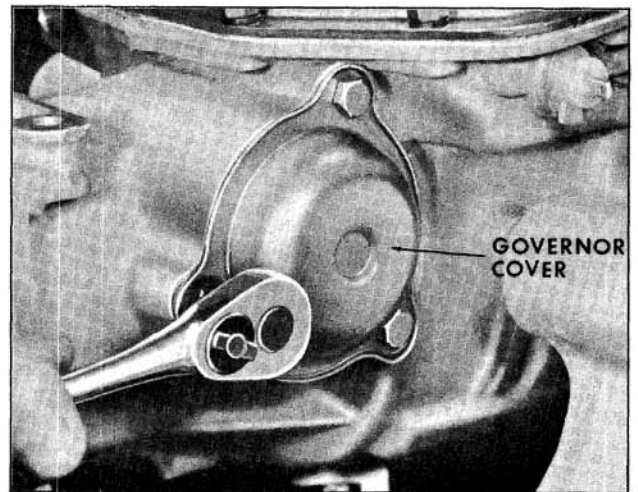

Fig. 6-370 Removing Governor Cover
1. Remove three attaching bolts retaining governor cover to case using a 1/2" socket. Remove cover and gasket. (Fig. 6-370)